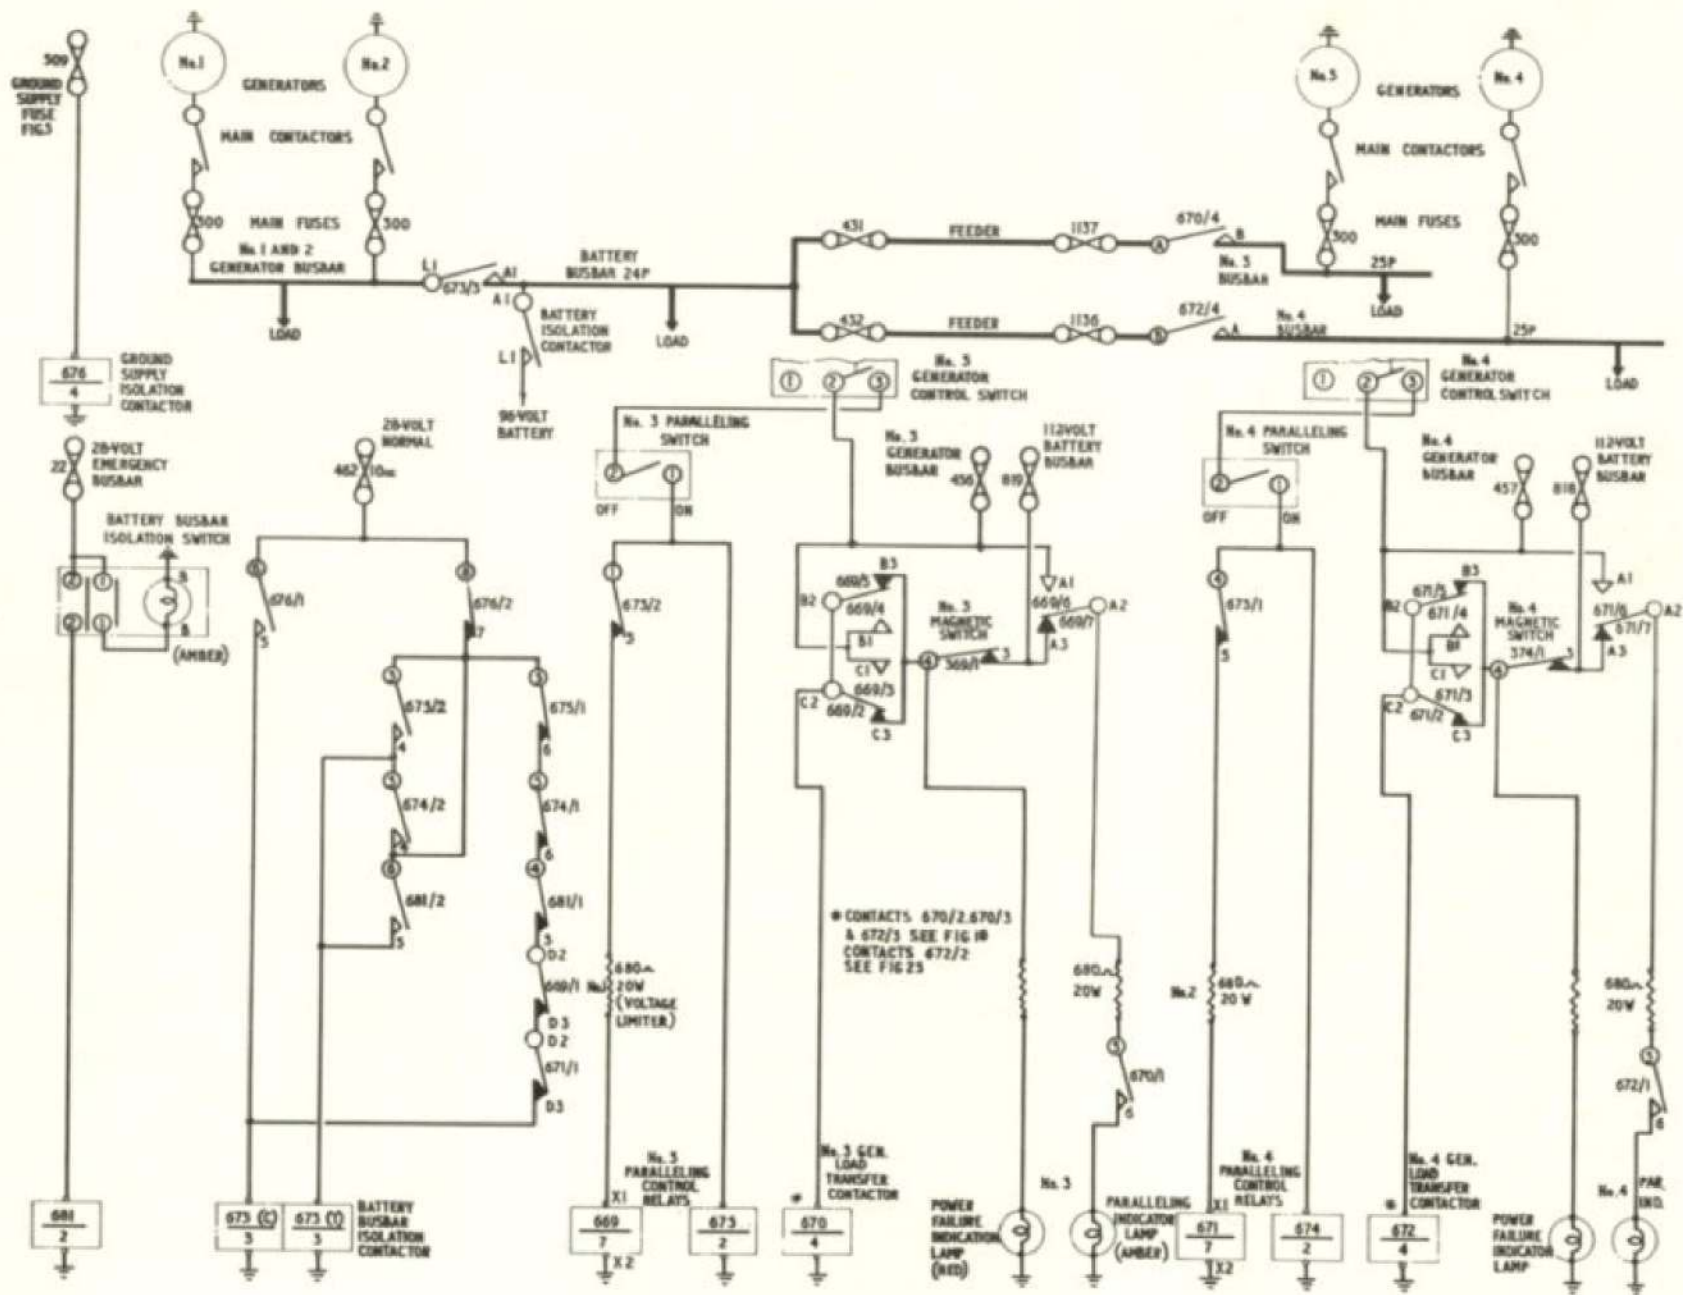

Fig. 6 Main distribution busbar control
SYSTEM SEE FIG. 6
34. The generator circuit operation outlined in the ensuing paragraphs should be read in conjunction with the theoretical circuit diagrams contained in fig. 6,7,8,9 and 10. Reference is made to the particular circuit diagram where necessary.
battery busbar isolation switch/indicator, should be depressed, and a check made to see that the amber indicator is lit. This action will ensure that the battery busbar isolation contactor No.673 is de-energised. See fig.6. On pulling the push-switch, the amber warning lamp should be extinguished.
- (3) Contacts 676/2 will open to isolate fuse 462 (28-volt) from the trip coil of contactor 673 (fig.6).
- (4) Contacts 676/1 will close to energise the close coil of the battery busbar isolation contactor 673 (fig.6).
- (1) Closing of contacts 673/3 will connect the battery busbar to the external supply via the No.1 and 2 generator busbar.
- (2) Opening of contacts 673/1 and 673/2 will isolate the No.3 and 4 generator paralleling control relays (669 and 671, fig.6).
41. Meanwhile, a supply from fuse 819 fed from the battery busbar, will energise the coil of the No.3 generator load transfer contactor, via contacts 369/1 (No.3 generator magnetic switch), and the paralleled contacts 669/2 and 669/5. See fig.6. This action will cause contacts 670/4 to close, and the No.3 generator busbar will be connected to the battery busbar. Also, closing of contacts 670/1 will connect the same supply via normally closed contacts 669/7 to light the No.3 paralleling amber indicator lamp on 10P, thus indicating that the No.3 generator busbar loads are being fed from the battery busbar. Note, at this stage, that the closing of contacts 670/3, which are interposed in the No.3 and 4 generator equalising circuit (fig.8), will be dealt with in the appropriate text for paralleling
42. A similar circuit operation to that outlined in para.41 will also take place for the No.4 generator load transfer contactor 672, using a supply from fuse 818 (circuit shown on fig.6).